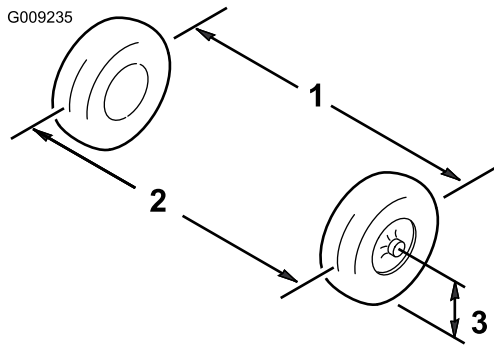

Figure 32
- Measure the distance between both of the front tires at the axle height at both the front and rear of the front tires (Figure 32).